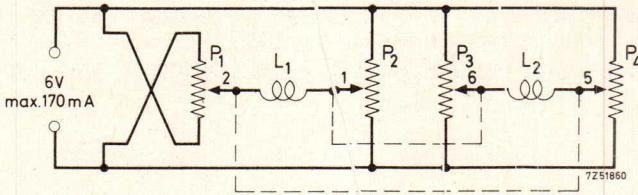

Fig.1
- b. With the tube fully scanned in the vertical direction, the image has to be shifted so that the graticule is fully covered. With the circuit according to fig.1 this is done by means of the ganged potentiometers P_1 and P_4 .